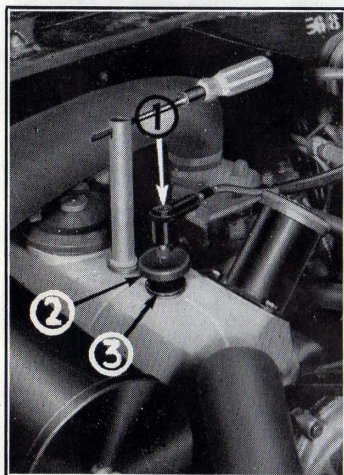

Figure 18
Replacement of a spark plug (fig. 18).
- the spark plug feed wire end piece **1** (fig. 18).
Use a 21 mm (53/64") deep socket wrench to remove plug (fig. 18 and fig. 19).